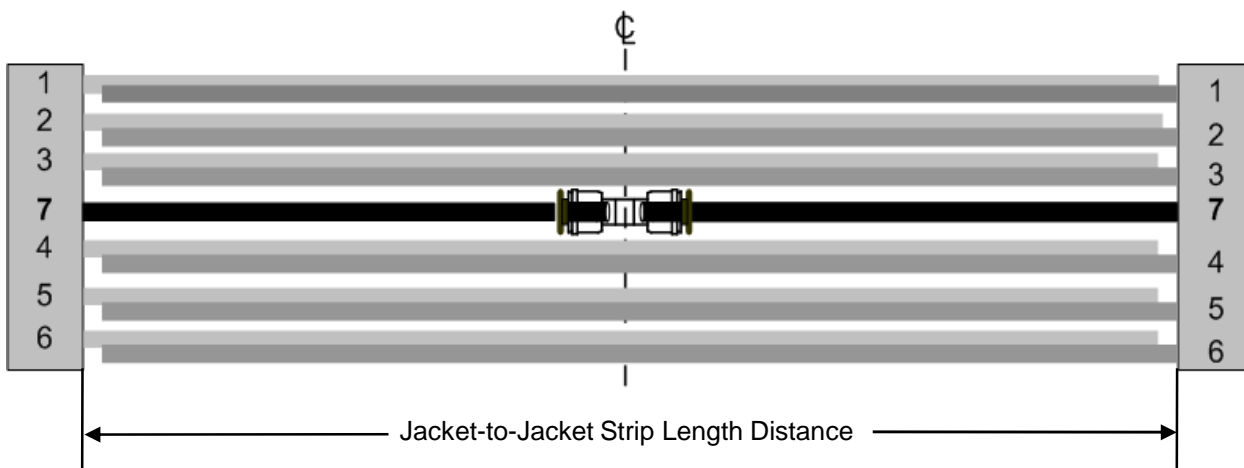
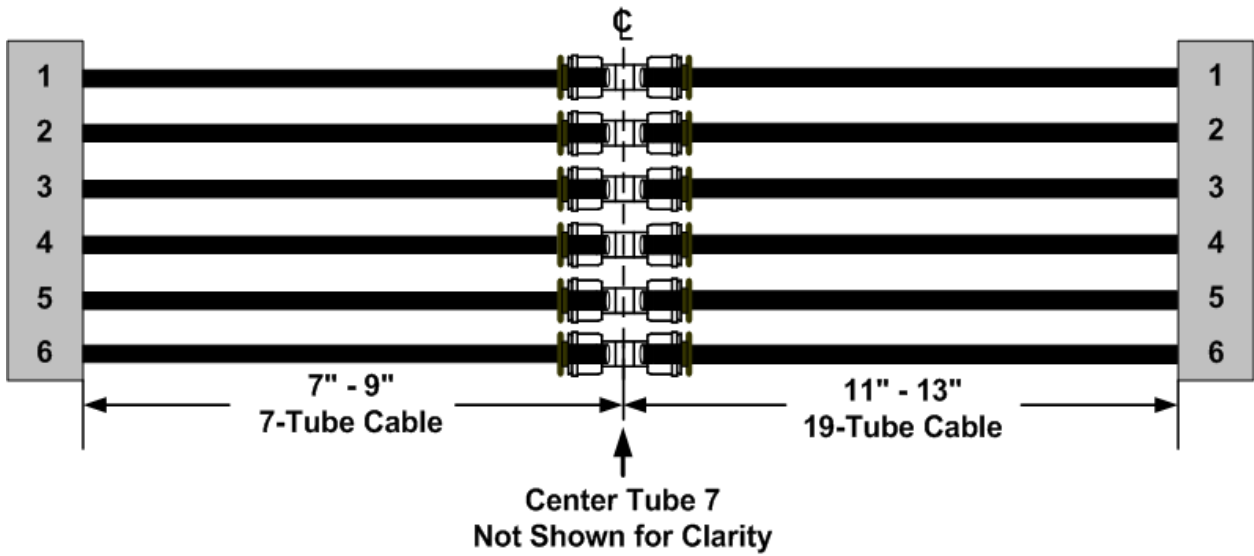

Figure 32
Figure 33
17.4 For a 7-Tube Cable, locate and install a Tube Coupling on Tube 7 in the center of the splice. Locate and install remaining Tube Couplings in-line with Tube 7 coupling. **See Fig. 32 and Fig. 33.**